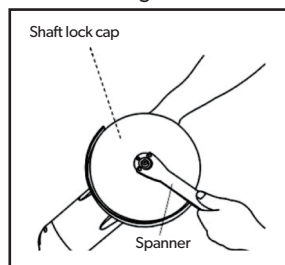

Fig 4
2. 1b tighten the outer flange, press the shaft lock firmly so that the spindle cannot revolve, then use the lock nut wrench and securely tighten clockwise. (Fig 4).